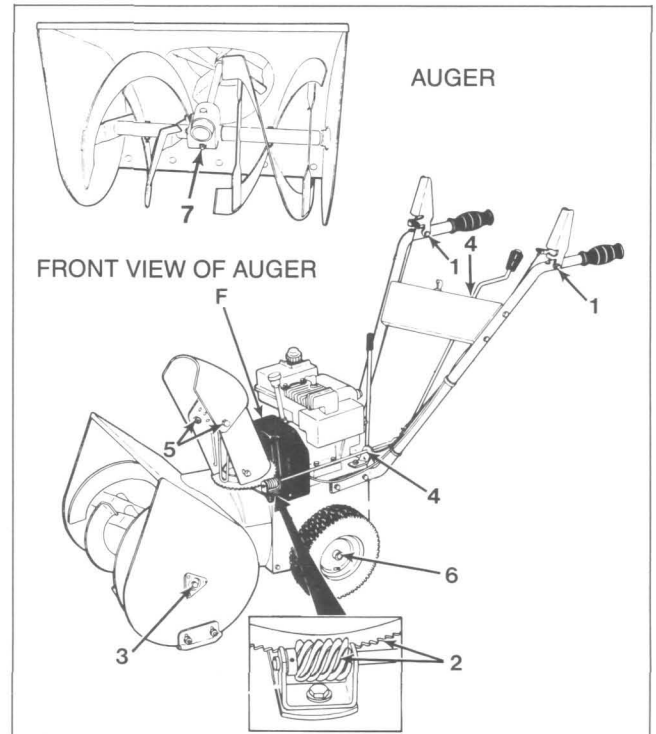

Figure 5-4
Refer to Figure 5-4 and the numbered items following it to determine which areas on your snowthrower should be lubricated.
7. Check the auger gear box's gear oil level. Move the snowthrower to a level area. Unscrew the plug (Figure 5-4, Item 7) from the front of the gear box. Oil should just begin to flow out of the hole. If it doesn't, add SAE 90 gear oil to the gear box. Fill the gear box until the oil just begins to flow from
1. Remove the two screws that secure the sides of the belt cover (Figure 5-4, Item F) to the snowthrower. Take the belt cover off the snowthrower.
6. Reinstall the belt cover (Figure 5-4, Item F) on the snowthrower.